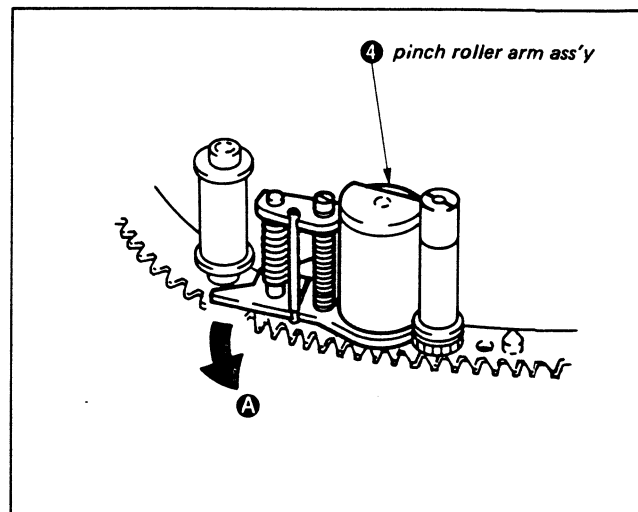

Fig. 3-12.
- 4) Rotate pinch roller arm assembly ④ in the direction of arrow A. (See Fig. 3-12)